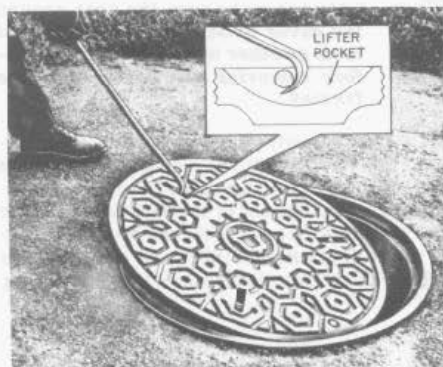

Fig. 14—Unseating G or H Covers With Rectangular Lifter Pockets
- (2) Insert the manhole hook into the pocket as shown in Fig. 14, making certain the hook engages the horizontal rod in the lifter pocket.
- (3) The cover should be unseated approximately 4 inches (Fig. 14) by pulling with the manhole hook.